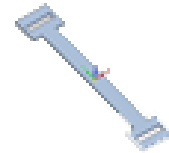

Fig. 14
2. Fix the ceiling lights together with the appropriate fixing bracket (Figure 14), using the screws supplied.